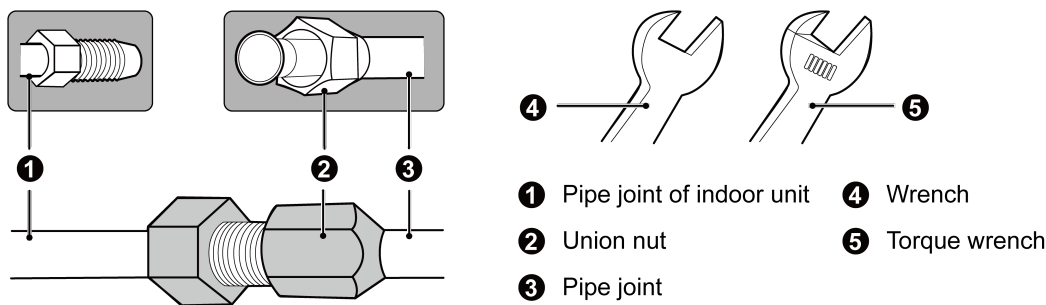

Fig.4.2.1
- (1) Aim the flaring port of copper pipe at the center of screwed joint and then tighten the flaring nut with hand as shown in Fig.4.2.1.
- (2) Use a torque wrench to tighten up the flaring nut until the wrench gives out a click sound.